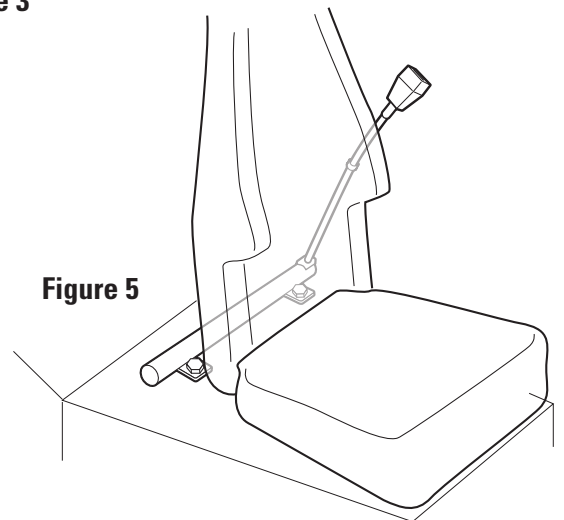
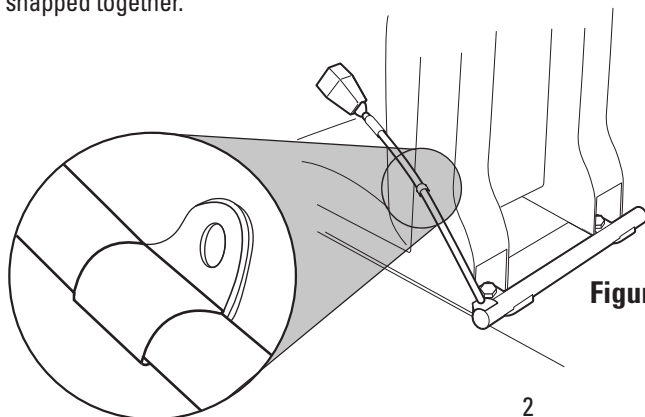

Figure 5
Figure 6
6. For non-ABTS seats, position the IBP mounting holes with the pre-drilled holes on cab floor and insert bolts. Make sure wiring harness is free and not pinched under unit. See **FIGURE 5**.
9. Torque each mounting bolt (4) on IBP to 36 to 45 ft.-lbs. (47 to 61 N-m).
10. After IBPs are bolted into place, properly position cable buckles by using cable clamp supplied with IBP. See **FIGURE 6**. On certain ABTS seats, a small screw can be removed and used to secure cable clamp. If cable clamp cannot be used, then remove and discard clamp.